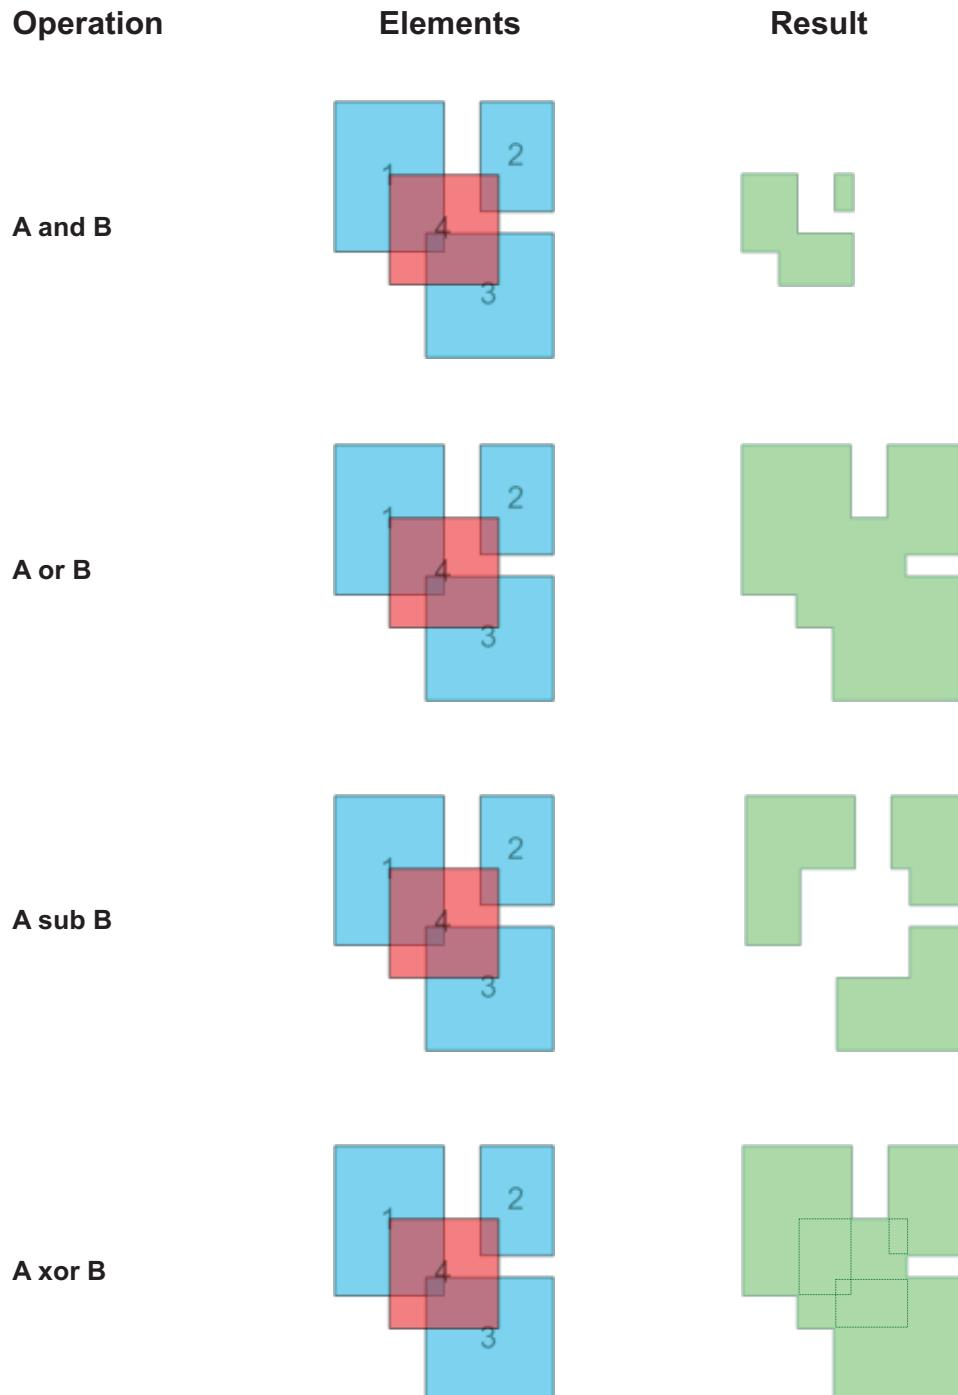

Figure 5-23: Result of Boolean operations on structure elements in different layers. Elements 1, 2, 3 are on one layer whereas 4 is on a different layer.
(⇒ Figure 5-23 on page 5-41) shows the result of Applying boolean operations on structure elements in different layers as an example:
- ▶ In the **Operation** subset, select the Boolean operation you want to apply (⇒ Figure 5-23 on page 5-41).